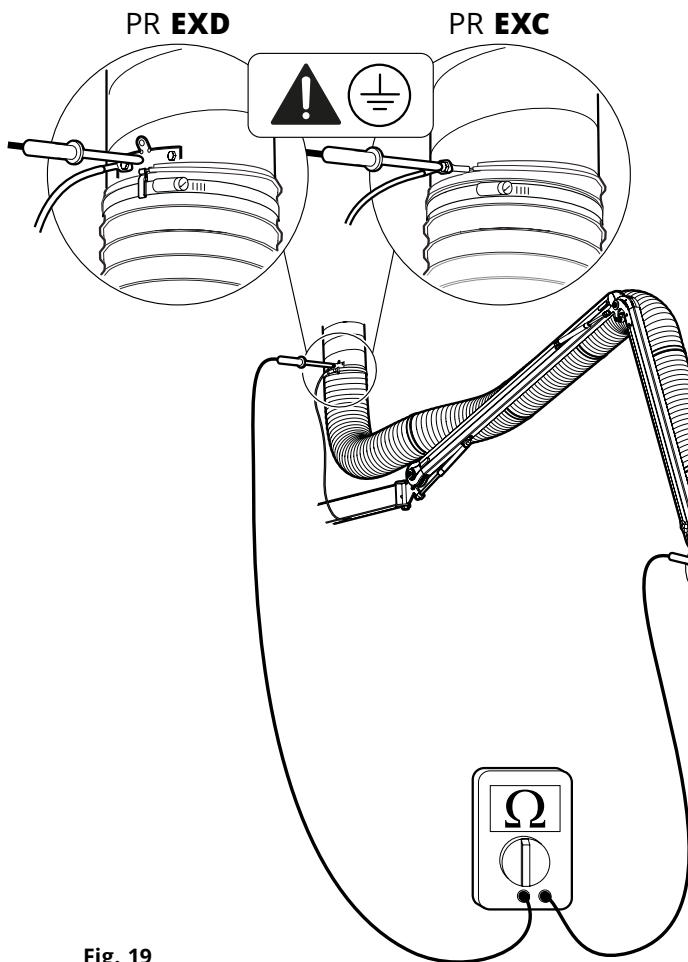

Fig. 19
3. Check the resistance of the hose with a calibrated ohmmeter. See 1, **Fig. 19**. The resistance between the measuring points (earth plane/hose end) must be less than $1 \text{ M}\Omega$.
4. Check the resistance of the extraction arm with a calibrated ohmmeter. See 2, **Fig. 19**. The resistance between the measuring points (earth plane/hood) must be less than $1 \text{ M}\Omega$.